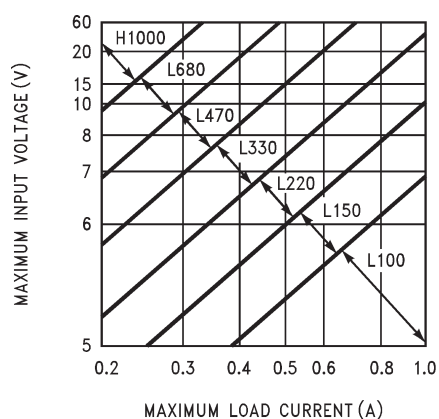
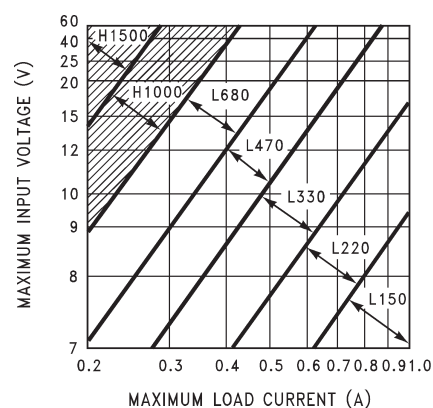
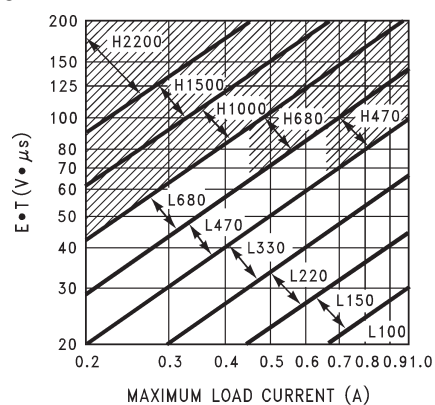

Figure 12. TL2575-33
Figure 13. TL2575-50
Figure 14. TL2575-ADJ
1. Inductor Selection (L1)  A. From <a href="#">Figure 12</a> through <a href="#">Figure 14</a> , select the appropriate inductor code based on the intersection of $V_{IN(Max)}$ and $I_{LOAD(Max)}$ .  B. From <a href="#">Table 2</a> , choose the appropriate inductor based on the inductor code. Parts from three well-known inductor manufacturers are given. The inductor chosen should be rated for operation at 52-kHz and have a current rating of at least $1.15 \times I_{LOAD(Max)}$ to allow for the ripple current. The actual peak current in L1 (in normal operation) can be calculated as follows: $I_{L1(pk)} = I_{LOAD(Max)} + (V_{IN} - V_{OUT}) \times t_{on}/2L1$ Where $t_{on} = V_{OUT}/V_{IN} \times (1/f_{osc})$	1. Inductor Selection (L1)  A. From <a href="#">Figure 13</a> (TL2575-05), the intersection of 20-V line and 1-A line gives an inductor code of L330.  B. L330 $\rightarrow$ L1 = 330 $\mu$ H Choose from: 34042 (Schott) PE-52627 (Pulse Engineering) RL1952 (Renco)